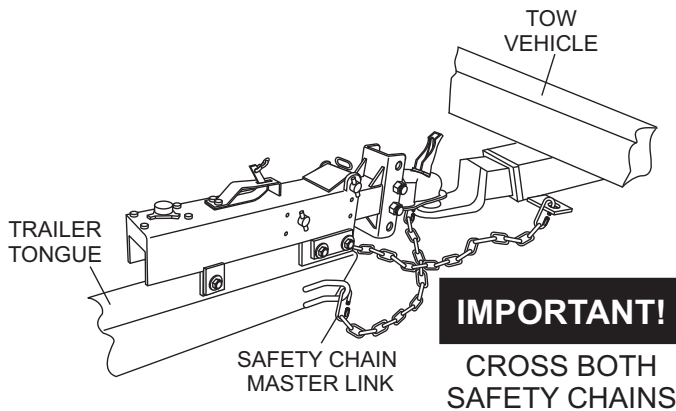

Figure 54. Safety Chain Arrangement for a Bumper Pull Trailer (Ball Hitch)
- A. Cross underneath the coupler. See Figure 54.